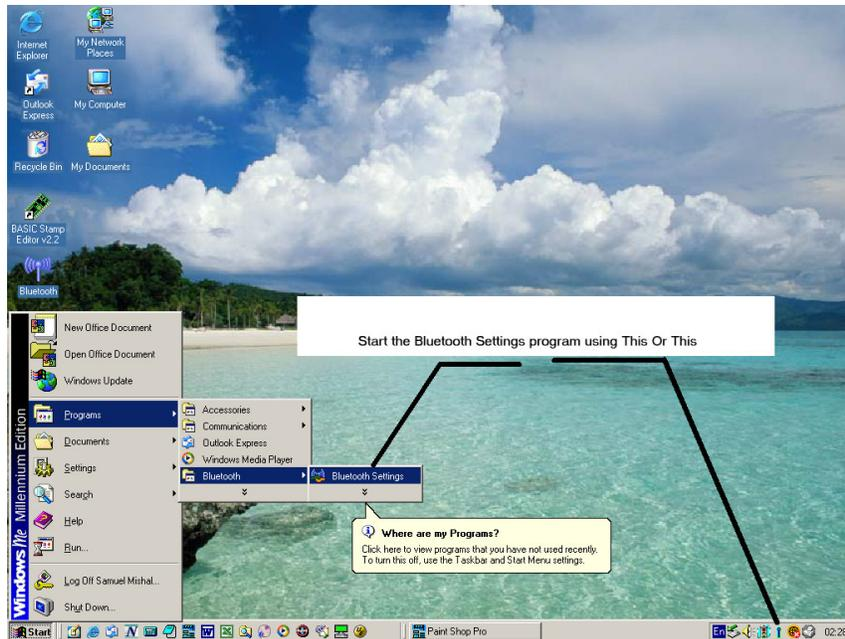

Figure 2
- V. Go to the PC and start the Bluetooth Settings program. This can be done by double clicking on the Bluetooth icon in the system tray or through the Start menu (Figure 2).